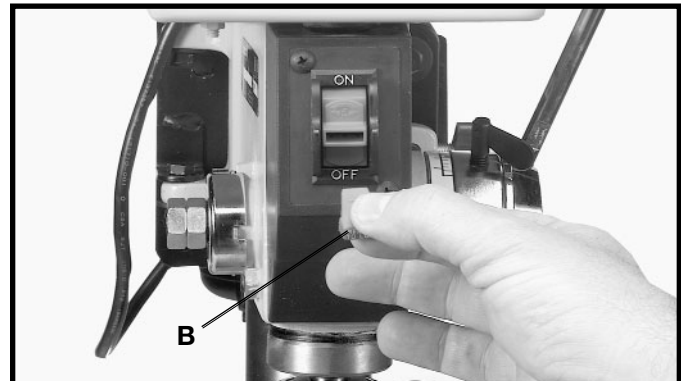

Fig. 22
When the tool is not in use, the switch should be locked in the "OFF" position to prevent unauthorized use. This can be done by grasping the switch toggle (B) and pulling it out of the switch, as shown in Fig. 22. With the switch toggle (B) removed, the switch will not operate. However, should the switch toggle be removed while the drill press is operating, the switch can be turned "OFF" once, but cannot be restarted without inserting the switch toggle (B).